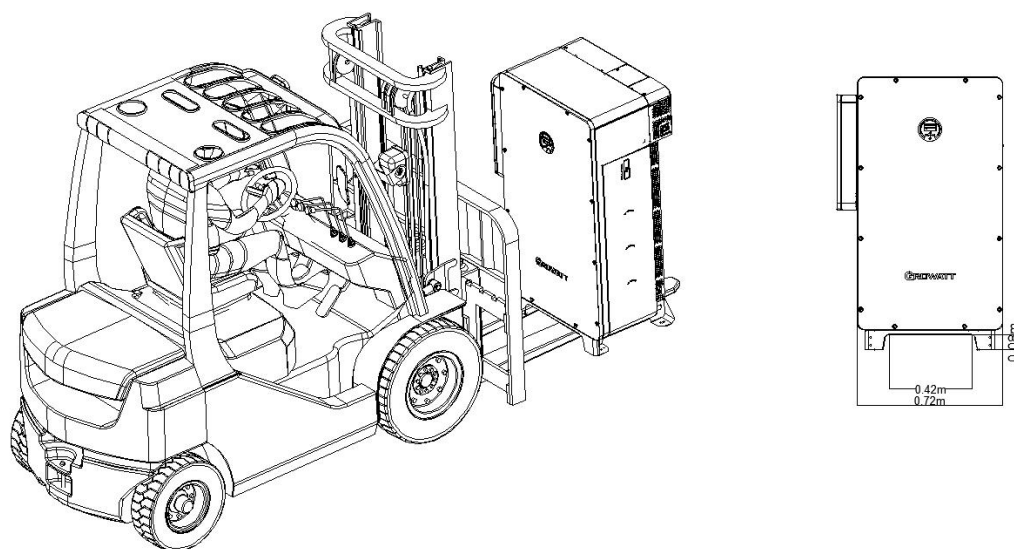

Fig 5.7 Moving a Storage Inverter with a forklift
- 2> As shown in Figure 5.7, operate the forklift to insert the tines into the pallet openings to lift the inverter and then transport it to the installation position. (The fork width should be smaller than 0.42m);